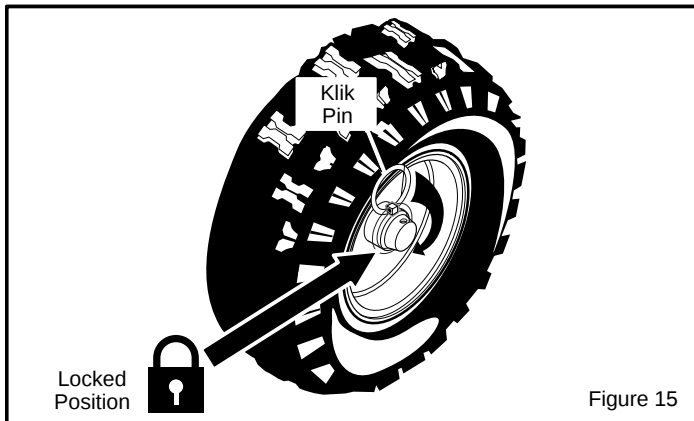

Figure 15
1. The right wheel is secured to the axle with a klik pin. This unit was shipped with this klik pin in the locked position. (Figure 15).